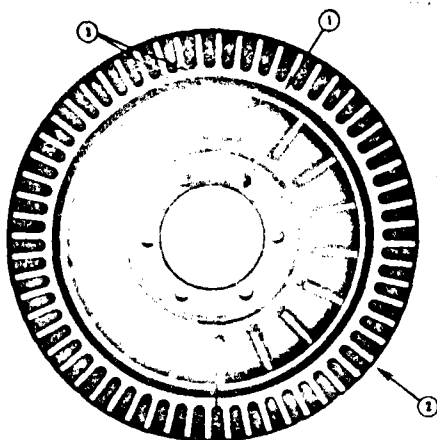

Fig. 2-67. (N10146). Vibration damper alignment marks
The damper hub (1, Fig. 2-67) and the inertia member (2) are stamped with an index mark (3) to permit the detection of movement between the two components.